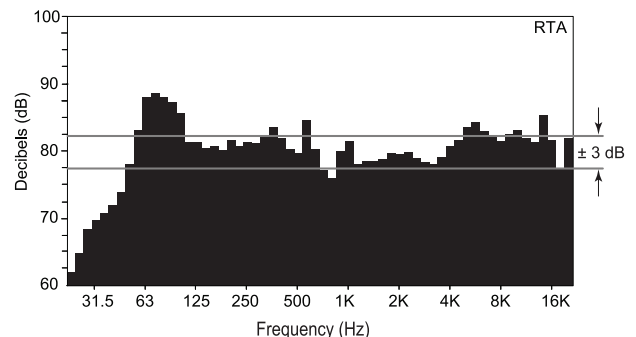

Figure 1: On-axis frequency response in standard stud wall with four coats of latex paint applied to the speaker face panel.
- 35Hz to 20kHz (see Figure 1)
35Hz to 20kHz (see Figure 1)